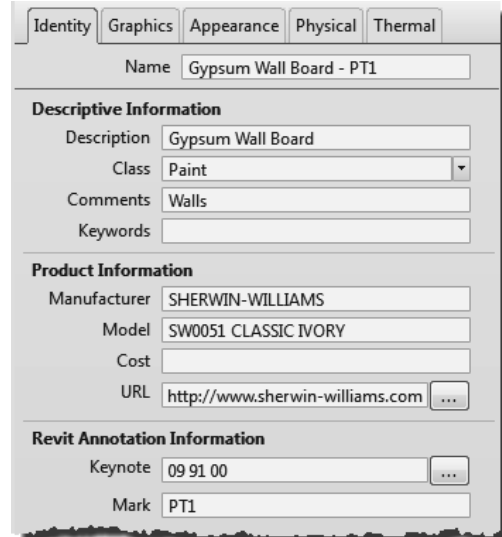

FIGURE 4-3.12 Identity info for PT1
40. Fill out the **Identity** tab using the information from the website as shown in Figure 4-3.12.